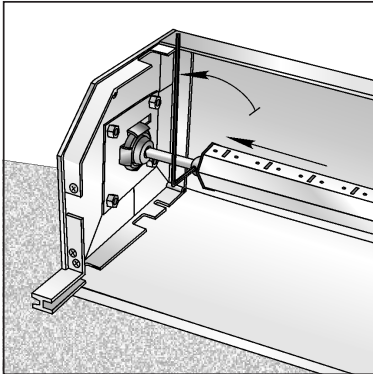

Fig. 17
- unscrew the expansion screw of the cap and pull out the bearing rod until it is seated in the ball bearing (Fig. 17); (Fig. 17);